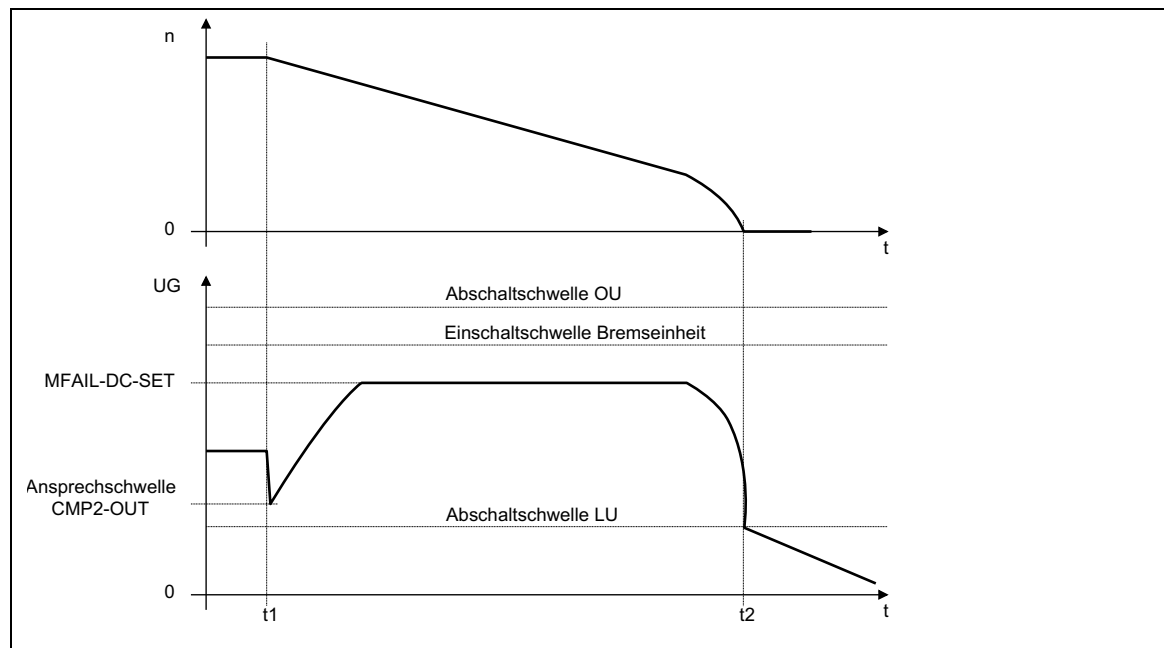

Fig. 3-103
- Increasing the integral-action time MFAIL T_n (C0981) until the characteristic in Fig. 3-103 is almost reached.